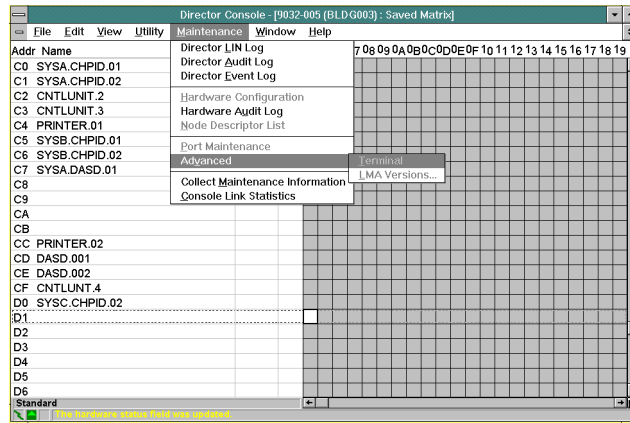

Figure 3-32. Selecting the Terminal Window
5. Access the *Terminal* window on the Console by selecting *Terminal* from the *Advanced* option of the *Maintenance* menu (Figure 3-32). Ensure you are using the Director's active matrix window.